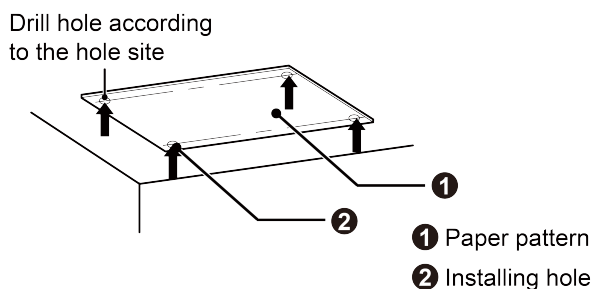
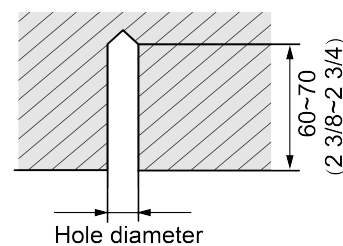

Fig. 4.1.2
Fig. 4.1.3
- 1) Stick the reference cardboard on the installation position; drill 4 holes according to the hole site on the cardboard as shown in Fig.4.1.2; diameter of drilling hole is according to the diameter of expansion bolt and the depth is 60-70mm(2-3/8~2-3/4 inch), as shown in Fig.4.1.3.